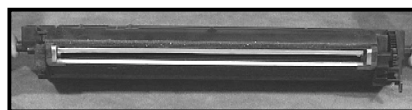
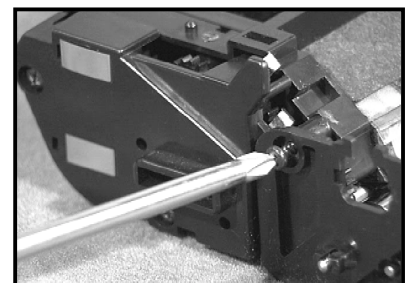

Figure 12
Figure 11
7. The mag roller assembly can be removed with 4 screws. There is a screw on both ends of the mag housing (fig. 11), and two on the back side of the toner hopper for a total of 4 screws. This will expose the area where the seal is installed (fig. 12).